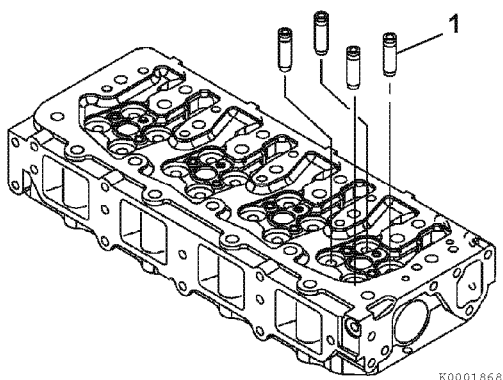

Figure 6-65
2. Immediately after removing the valve guides from the freezer, insert the valve guides (1, **Figure 6-65**) in their proper positions.